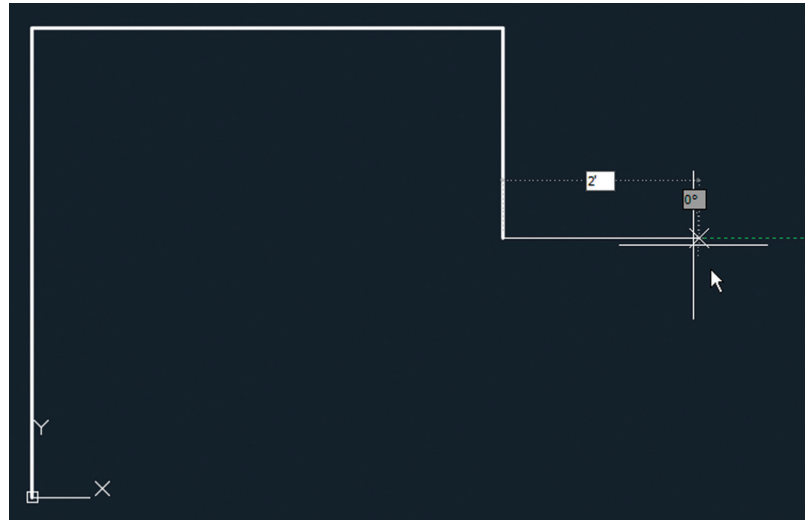

FIGURE 3.5 Drawing a line using Ortho mode and direct distance entry
6. Move the cursor around and observe that green dashed lines appear in eight locations around a circle (in 45° increments). Move the cursor to the right relative to the last point, type 2' (or 600 for metric), and press Enter (see Figure 3.5). Press Esc to terminate the LINE command without deleting the last segment drawn.